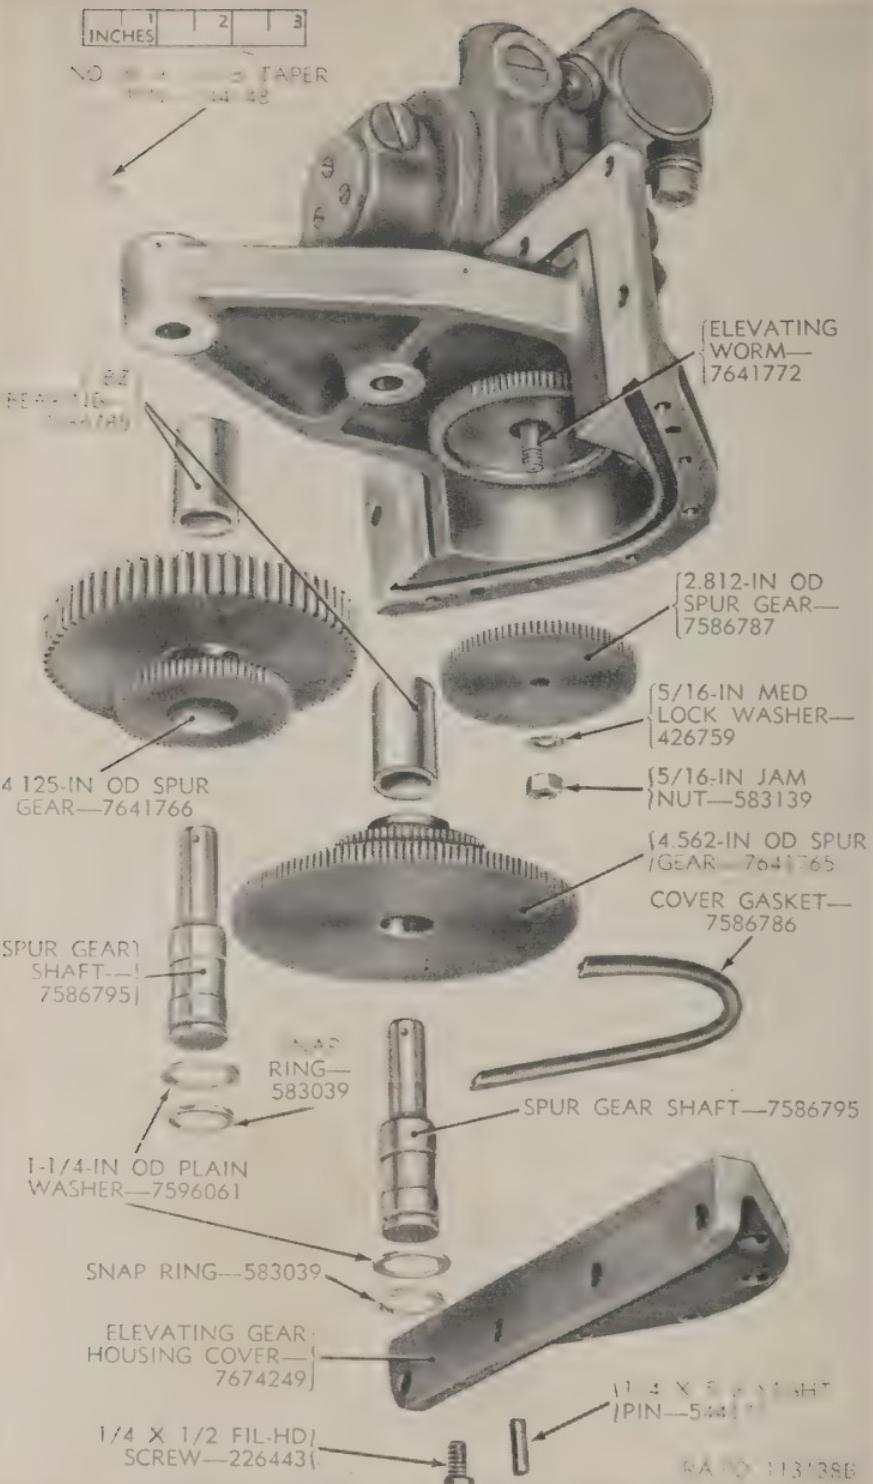

Figure 42. Telescope mount M32—removal of the elevating gear housing cover and spur gears from the housing—exploded view.
(fig. 42)
- (1) Support the spur gear shaft (fig. 42) and press or drive out the taper pin (fig. 42) that secures the shaft in the housing. With the use of a wood drift, press the shaft and 4.562-inch OD spur gear out of the housing. Pull the gear (fig. 42) from the shaft. Remove the snap ring and washer from the shaft.
- (2) Support the second spur gear shaft (fig. 42) and press or drive out the taper pin (par. 30) that secures the shaft in the housing. With the use of a wood drift, press the shaft and 4.125-inch OD spur gear from the housing. Pull the gear (fig. 42) from the gear shaft. Remove the snap ring and washer from the shaft.
- (3) The bearings in each of the spur gears should not be removed unless damaged. If removal is necessary, press out the bearings.
- (4) Remove the jam nut that secures the 2.812-inch OD spur gear to the elevating worm (fig. 42). Slide the lock washer and spur gear (fig. 42) from the worm.
- (1) Lubricate (par. 26) the 2.812-inch OD spur gear (fig. 42) and slide the gear on the elevating worm (fig. 42). The key on gear must enter the keyway of the worm. Slide the $\frac{5}{16}$ -inch medium lockwasher (fig. 42) on the worm and screw a $\frac{5}{16}$ -inch jammnut (fig. 42) on the worm. Tighten the jammnut securely against the washer and spur gear.
- (2) If replacement is required, press in new phosphor bronze bearings (fig. 42) into the spur gears. Install a $1\frac{1}{4}$ -inch OD plain washer and snap ring on each of the spur gear shafts (fig. 42). Lubricate (par. 26) the 4.125-inch OD spur gear (fig. 42) and one of the shafts. Press the spur gear shaft into the spur gear and housing and secure with a No. 00 $\times 1\frac{1}{8}$ taper pin (fig. 42).
- (3) Lubricate the 4.562-inch OD spur gear and the second spur gear shaft. Position the spur gear on the housing, alining the scribe marks, and press the shaft into the gear and hous-
ing. Secure the shaft to the housing with a No. 00 x $1\frac{1}{8}$ taper pin (fig. 42).
123. Installation of the Elevating Gear Housing Cover (fig. 42)
Position the instrument light clamp assembly (J, fig. 41) on the elevating gear housing cover (fig. 42) and secure with four No. 8 (0.164) x $\frac{3}{8}$ round-head screws and four No. 8 (0.164) light lock washers.
- (2) Scribe coincident lines on the spur gears (fig. 42).
- (3) Scribe a mark on the top of the elevating worm and inside the housing.
- (4) Insert a screwdriver in the top of the housing, engaging the slot in the elevating worm.
- (5) Rotate the worm 90° from the scribe marks. Rotate back and match the scribe lines on the worm housing.
- (6) Check the position of the scribe lines on the gear train. The lines should coincide; if they do not, record the difference in inches. Repeat the procedure several times, each time recording the difference in the scribed lines on the gear train.
- (7) Only initial backlash is allowed between these gears. Excessive backlash should be removed by adjusting the worm mechanism (par. 41).
c. Sealing. After all tests and adjustments have been made, the screw holes in (1) through (3) below must be plugged and sealed with the proper sealing and plugging cement (ORD 3 SNL K-1).